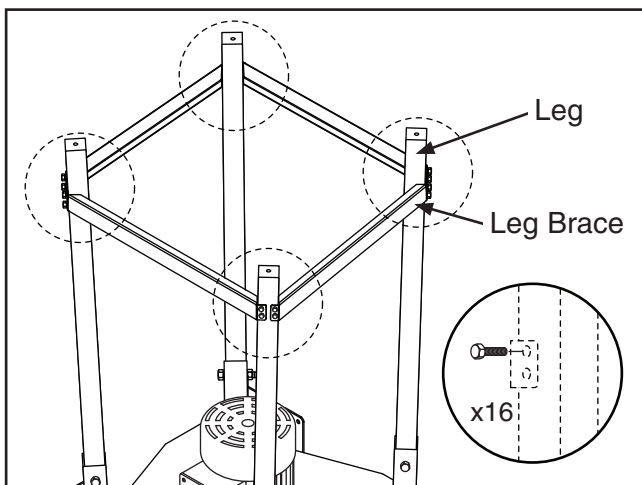

Figure 9. Attaching leg braces.
3. Attach the four leg braces to the legs with the (16) $\frac{5}{16}$ "-18 x $\frac{1}{2}$ " hex bolts, as shown in **Figure 9**. Fully tighten the bolts and the hardware from **Step 2**.